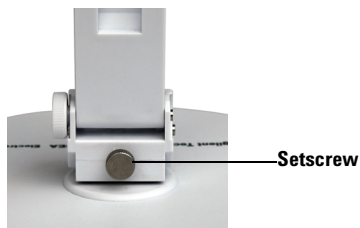

Figure 2 Securing the arm to the base
- 5 Secure the arm to the base by tightening the setscrew at the bottom of the arm. See Figure 2.
Rotating the flexible arm: The flexible arm normally rotates 360 degrees in the base. If needed, loosen the setscrew. See Figure 2 on page 4.